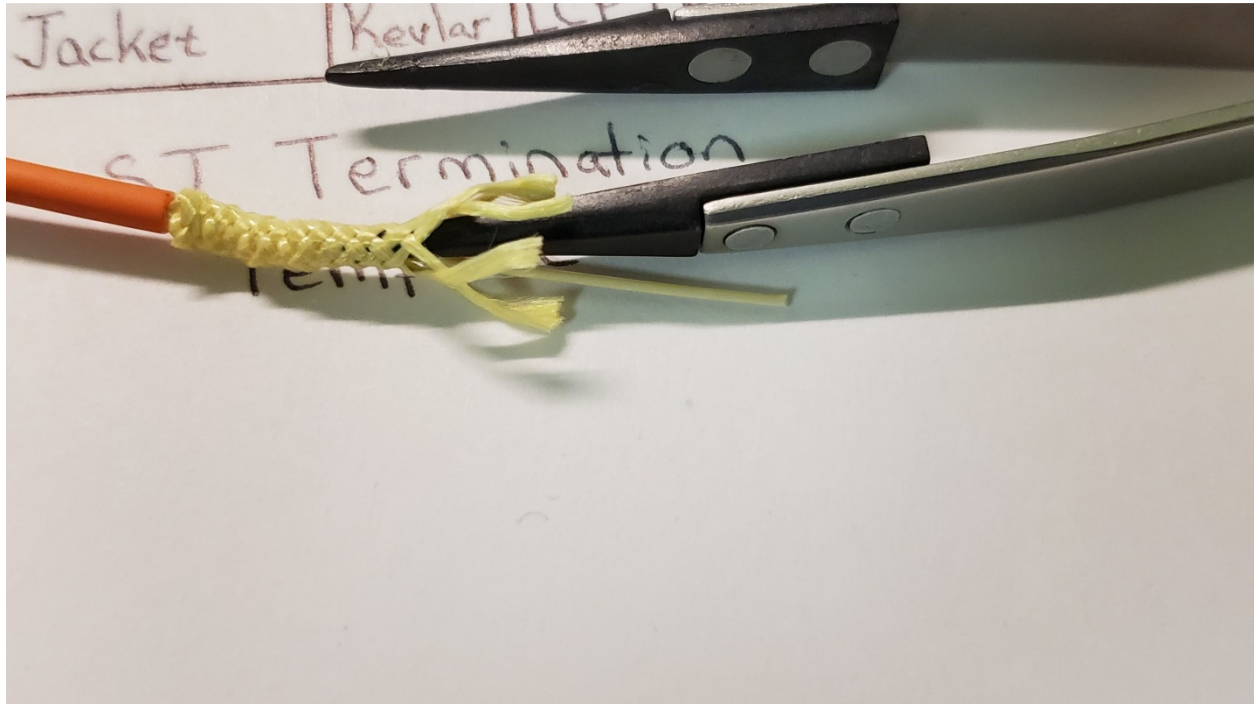

Figure 5. Opening of the Kevlar Braid for Cutting to Length
- 2.5 Open Kevlar braid using plastic tool, like tweezers shown in Figure 5 and cut to length with Kevlar Cutters according to the template.